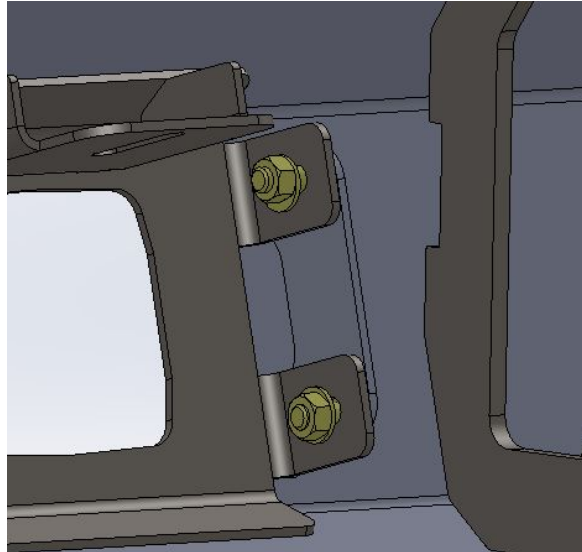

Figure 6
4. At this point install part 22453 using the 4x 5/16" bolt stacks (Figure 6). this can be completed with a 1/2" wrench and/or socket. Please note, part front face and bumper front face should be flush.